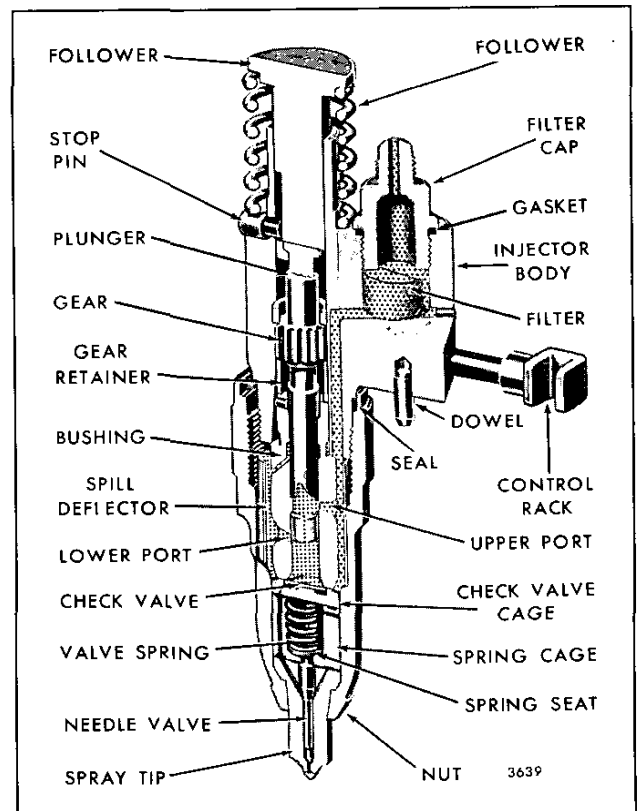

Fig. 31 - Cutaway View of Fuel Injector
19. Put the needle, tapered end down, into the spray tip (Fig. 31). Then, place the spray tip assembly on top of the spring cage with the quill end of the needle valve in the hole in the spring cage.